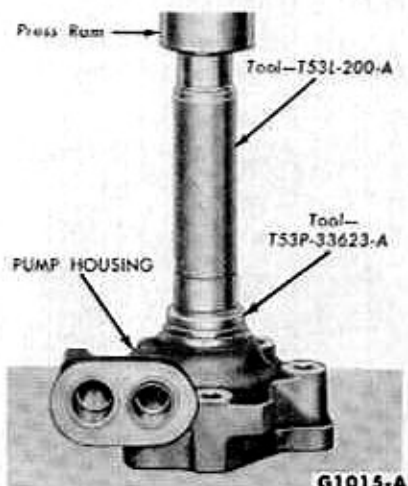

FIG. 10—Carrier Shaft Seal Installation
3. Press the seal into the housing (Fig. 10) until it seats firmly and evenly against the shoulder in the bore.